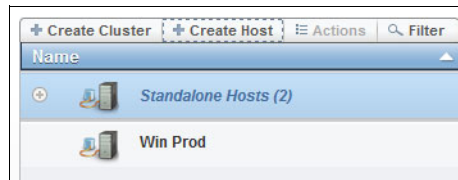

Figure 11-52 Create Host
6. In the Create Host window, click the **Create Host** tab, as shown in Figure 11-52.